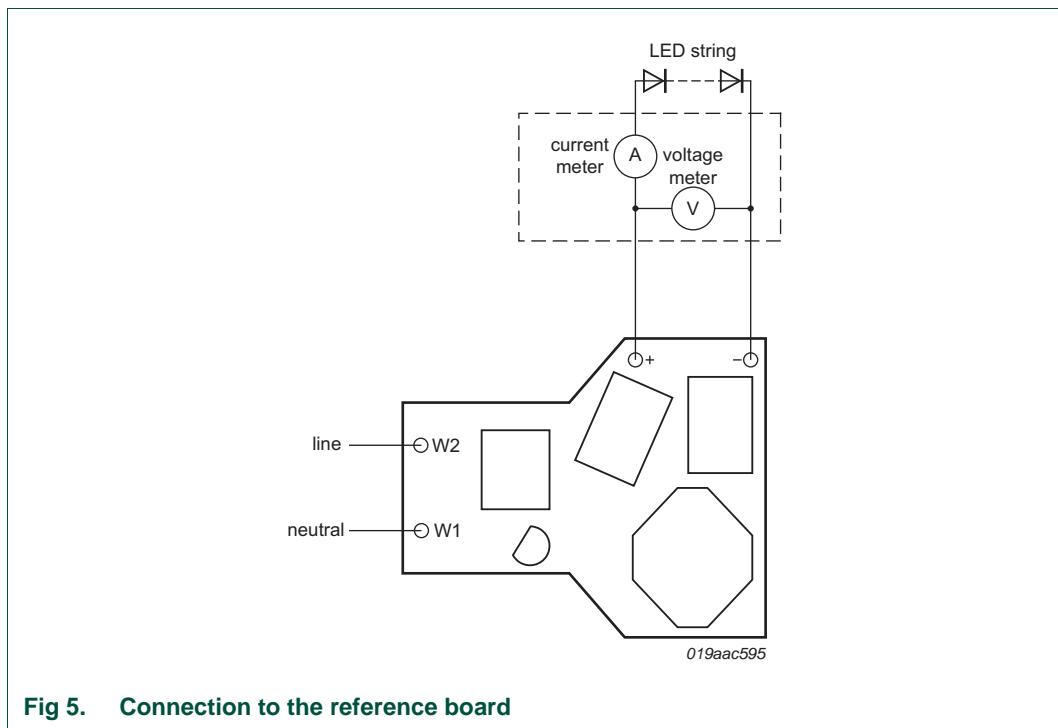

Fig 5. Connection to the reference board
The GU10 LED driver board takes a 120 V (AC), 60 Hz mains supply and supports a 5-LED load. Setting up the board for evaluation is straightforward, as can be seen in Figure 5. Input pins W1 and W2 are connected to the AC input power (live and neutral) and an LED string connected in series with a current meter is to the two output pins LED+ and LED-. The current flows from pin LED+ to pin LED-.
Remark: When the output current and voltage are correctly established, the current and voltage meters, as shown in Figure 5, can be removed. The LED string is then connected directly to the output pins LED+ and LED-.